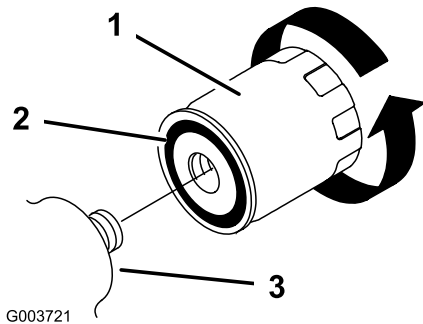

Figure 38
5. Remove the old filter (Figure 38) and wipe the surface of the filter adapter clean.
6. Apply a thin coat hydraulic fluid to the rubber gasket on the replacement filter (Figure 38).
7. Install the replacement hydraulic filter onto the filter adapter (Figure 38). Tighten it clockwise until the rubber gasket contacts the filter adapter, then tighten the filter an additional 1/2 turn.